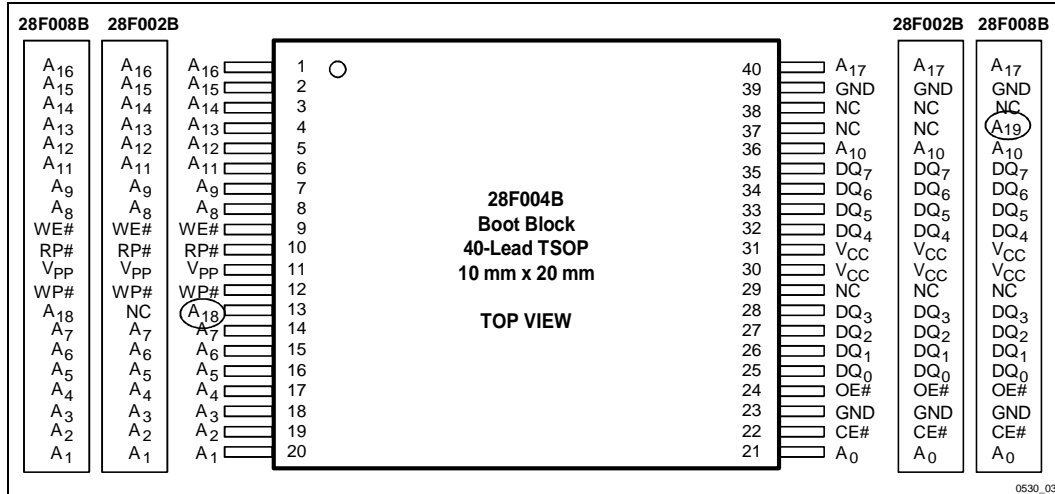
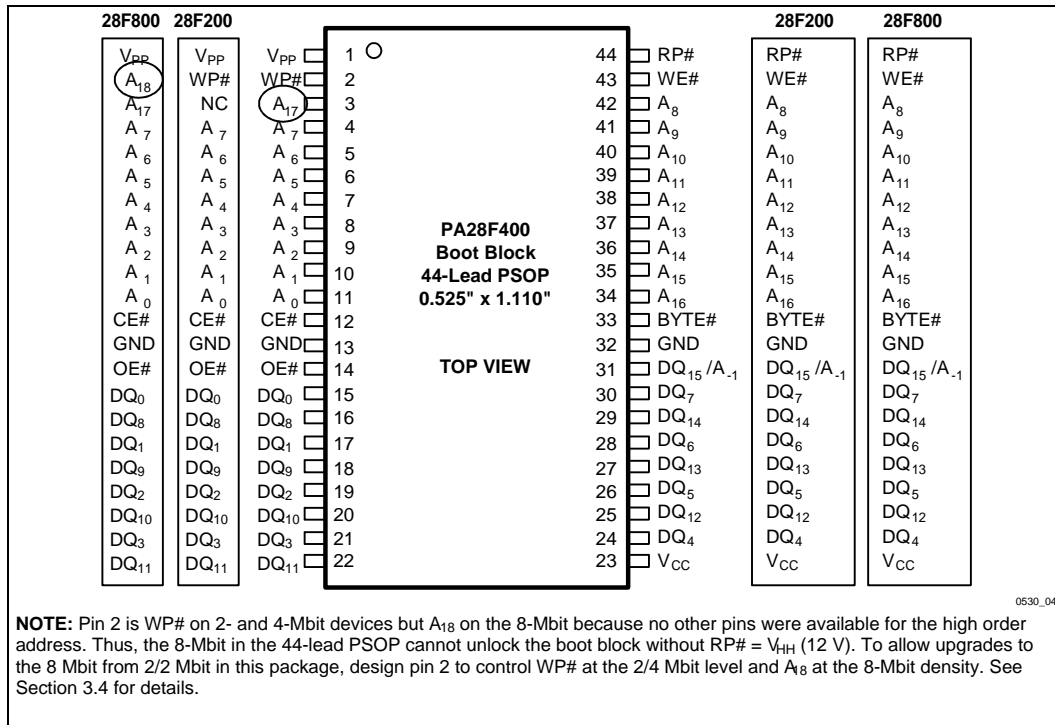
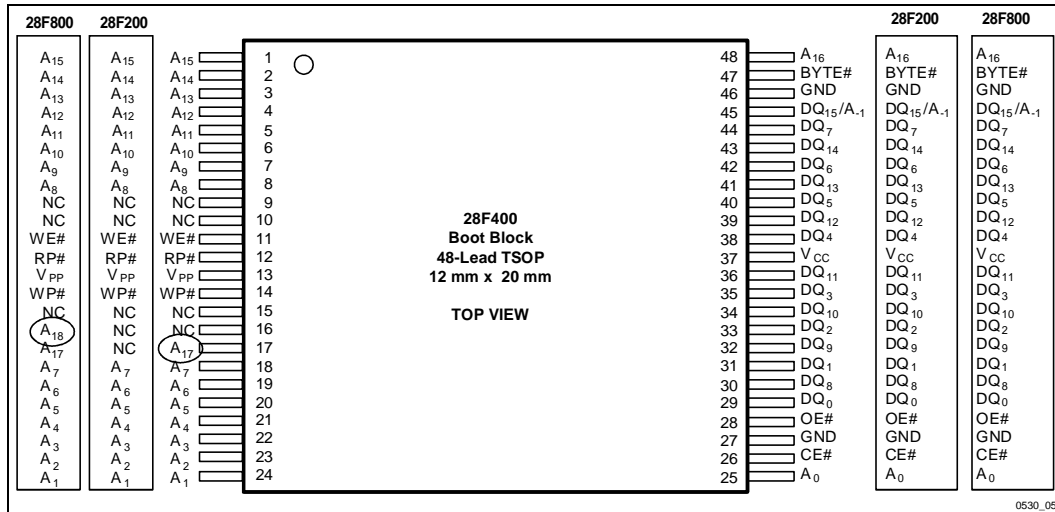
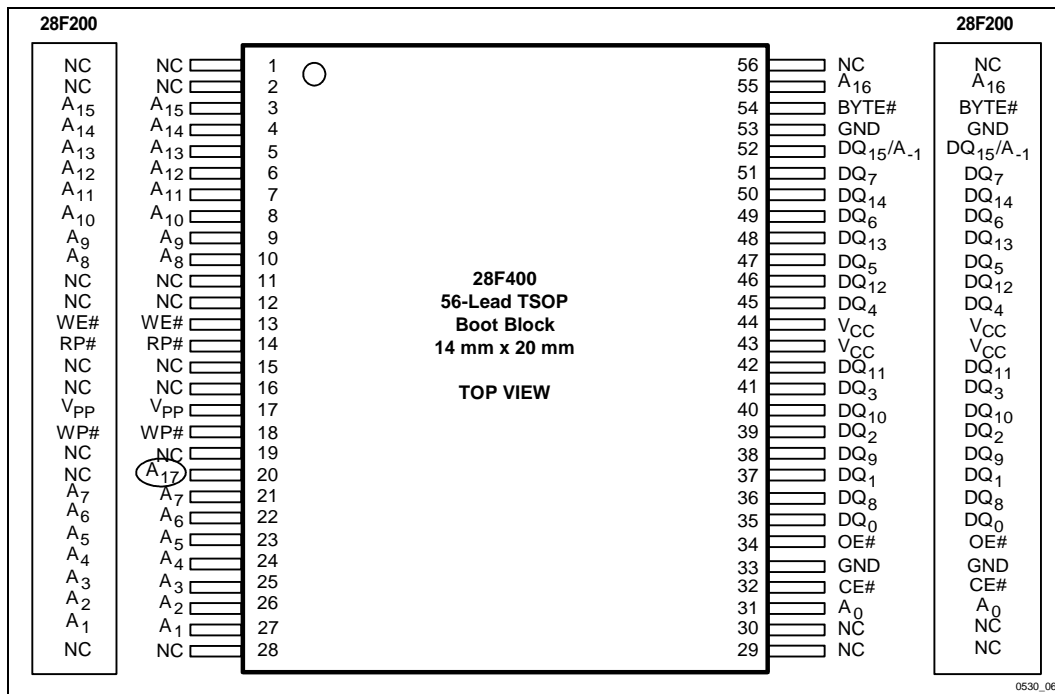

Figure 3. The 40-Lead TSOP Offers the Smallest Form Factor for Space-Constrained Applications
Figure 4. The 44-Lead PSOP Offers a Convenient Upgrade from JEDEC ROM Standards
Figure 5. The 48-Lead TSOP Offers the Smallest Form Factor for x16 Operation
Figure 6. The 56-Lead TSOP Offers Compatibility between 2 and 4 Mbits
-002	<p>Status changed from Product Preview to Preliminary 28F400CV/CE/BE references and information added throughout. 2.7 V CE/BE specs added throughout.</p> <p>The following sections have been changed or rewritten: 1.1, 3.0, 3.2.1, 3.2.2, 3.3.1, 3.3.1.1, 3.3.2, 3.3.2.1, 3.3.3, 3.3.4, 3.6.2.</p> <p>Note 2 added to Figure 3 to clarify 28F008B pinout vs. 28F008SA.</p> <p>Sentence about program and erase WSM timeout deleted from Section 3.3.3, 3.3.4.</p> <p>Erroneous arrows leading out of error states deleted from flowcharts in Figs. 9, 10.</p> <p>Sections 5.1, 6.1 changed to "Applying VCC Voltages." These sections completely changed to clarify VCC ramp requirements.</p> <p>IPPD 3.3 V Commercial spec changed from 10 to 5 μA.</p> <p>Capacitance tables added after commercial and extended DC Characteristics tables.</p> <p>Test and slew rate notes added to Figs. 12, 13, 19, 20, 21.</p> <p>Test configuration drawings (Fig. 14, 22) consolidated into one, with component values in table. (Component values also rounded off).</p> <p>tELFL, tELFH, tAVFL changed from 7 to 5 ns for 3.3 V BV-60 commercial and 3.3 V TBV-80 extended, 10 to 5 ns for 3.3 V BV-80 and BV-120 commercial.</p> <p>tWHAX and tEHAX changed from 10 to 0 ns.</p> <p>tPHWL changed from 1000 ns to 800 ns for 3.3 V BV-80, BV-120 commercial.</p> <p>tPHL changed from 1000 ns to 800 ns for 3.3 V BV-60, BV-80, and BV-120 commercial.</p>
The 28F400 products are available in a ROM/EPROM-compatible pinout and housed in the 44-lead PSOP (Plastic Small Outline) package, the 48-lead TSOP (Thin Small Outline, 1.2 mm thick) package and the 56-lead TSOP as shown in Figures 4, 5 and 6, respectively. The 28F004 products are available in the 40-lead TSOP package as shown in Figure 3.
Intel's SmartVoltage Boot Block architecture provides upgrade paths in every package pinout to the 8-Mbit density. The 28F004B 40-lead TSOP pinout for space-constrained designs is shown in Figure 3. The 28F400 44-lead PSOP pinout follows the industry-standard ROM/EPROM pinout, as shown in Figure 4. For designs that require x16 operation but have space concerns, refer to the 48-lead pinout in Figure 5. Furthermore, the 28F400 56-lead TSOP pinout shown in Figure 6 provides density upgrades to future higher density boot block memories.
This product family features an asymmetrically-blocked architecture providing system memory integration. Each erase block can be erased independently of the others up to 100,000 times for commercial temperature or up to 10,000 times for extended temperature. The block sizes have been chosen to optimize their functionality for common applications of nonvolatile storage. The combination of block sizes in the boot block architecture allow the integration of several memories into a single chip. For the address locations of the blocks, see the memory maps in Figures 4 and 5.